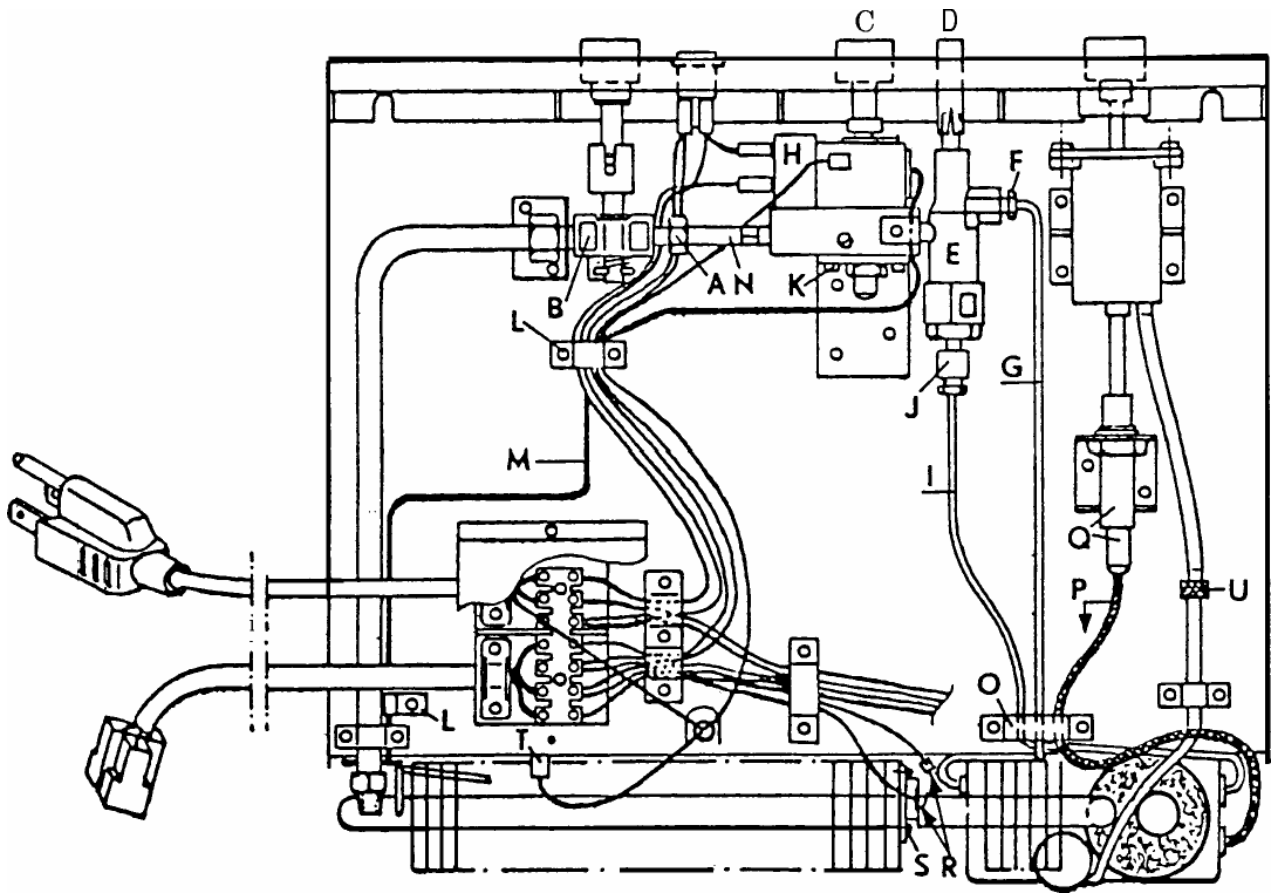
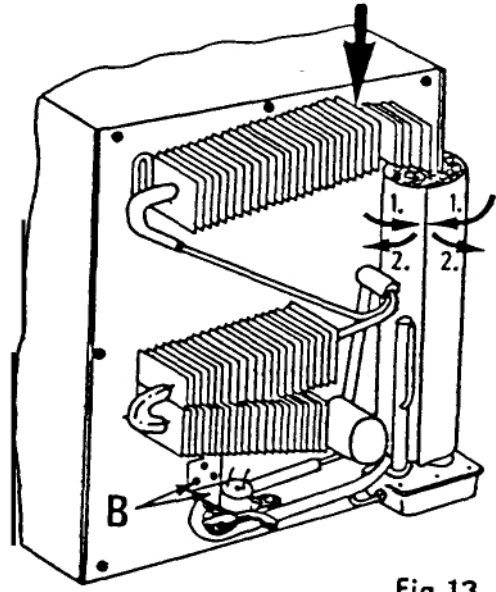

Fig.11
Fig.13
3. Unscrew union nut (A, fig. 11) from gas-cock (B, fig. 11). (Use a second fork-spanner to hold counterpart the gas-cock).
4. Pull off thermostat knob (C, Fig.11) and knob (D, Fig.11) of safety device (E, Fig. 11).
5. Unscrew union nut (F, Fig.11) of gas-pipe (G, Fig.11) from flame failure safety device (E, Fig. 11).
6. Remove three cable plug-connections from thermostat (H, Fig.11).
7. Unscrew thermo-coupling (I, Fig.11) from thermo-current adapter (J, Fig.11).
8. Unscrew thermostat (H, Fig.11) from support bracket (K, Fig.11) (2 screws).
9. Unscrew two clips (L, Fig.11) from capillary tube (M, Fig.11).
11. Dismantling of thermostat (H, Fig.11) : Unscrew flame failure safety device (E, Fig.11) with thermo-current adapter (J, Fig.11) and the connection (N, Fig.11) from thermostat.
12. Dismantling of the flame failure safety device (E, Fig.11) : Unscrew flame failure safety device from thermostat (H, Fig.11). Then unscrew thermo current adapter (J, Fig.11) from the flame failure safety device.
5. Replacing the thermo-current adapter (J, Fig. 11).
1. Unscrew thermo-coupling (I, Fig.11) from thermo-current adapter.
2. Unscrew thermo-current adapter from flame failure safety device (E, Fig.11) and replace by new unit.
6. Replacing the thermocouple (I, Fig. 11)
1. Unscrew thermo-coupling from thermo-current adapter (J, Fig. 11).
2. Unscrew clip (O, Fig.11) for gas-pipe (G, Fig.11) and thermocouple.
5. Bend new thermocoupling (I, Fig. 11+12) to shape of old one. For reassembly, proceed in the reverse sequence of dismantling.
1. Remove ignition cable (P, Fig.11) from piezo ignitor (Q, Fig.11).
1. Unscrew thermo-coupling (I, Fig.11) from thermo-current adapter (J, Fig.11).
3. Remove the three connections (A, Fig. 13/R, Fig.11), unscrew support bracket (B, Fig. 13) of the ventilator.
4. Unscrew thermostat (S, Fig. 11) from condenser fins and remove plug-connection of grounding cable (T, Fig. 11) above the condenser fins.
8. Unscrew union nut (U, Fig.11) from air feed-pipe.